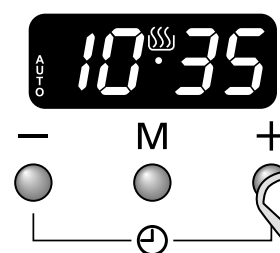

Fig. 5.5
2. Select the 'stop time' using the [+] or [-] buttons. The display will show the current time along with the 'AUTO' and Cooking [🔥] symbols (**Fig. 5.5**).